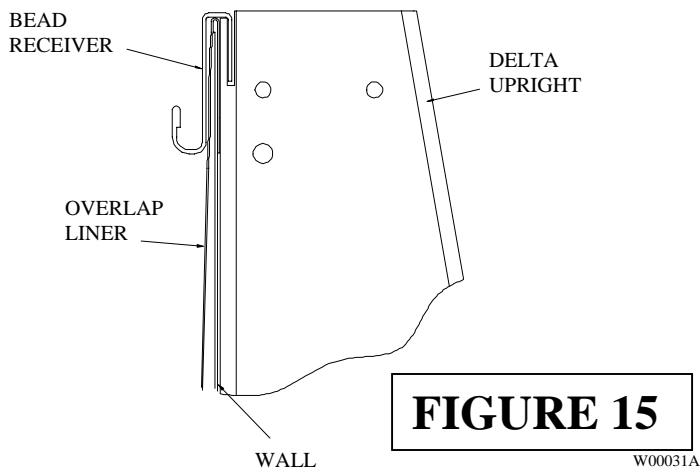
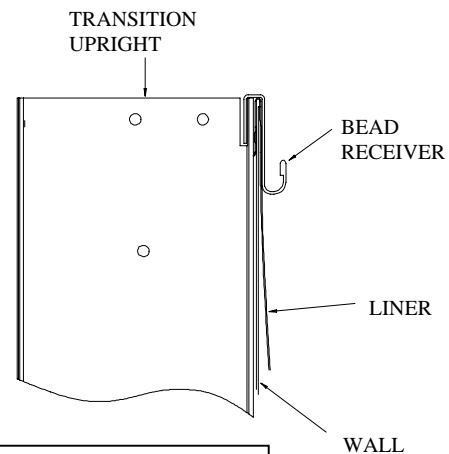

FIGURE 15
FIGURE 16
Step 14: See Figure 14, Detail 14A, Figure 15 and Figure 16. Place the liner over the edge of the wall. Make sure the overlap is equal around the outside of the pool wall. Cut the liner into lock into 2" pieces and center the 1 1/2" pieces of the liner interlock over the liner at each upright. Place the bead receiver over the liner interlock and liner as shown, to secure the liner in place.